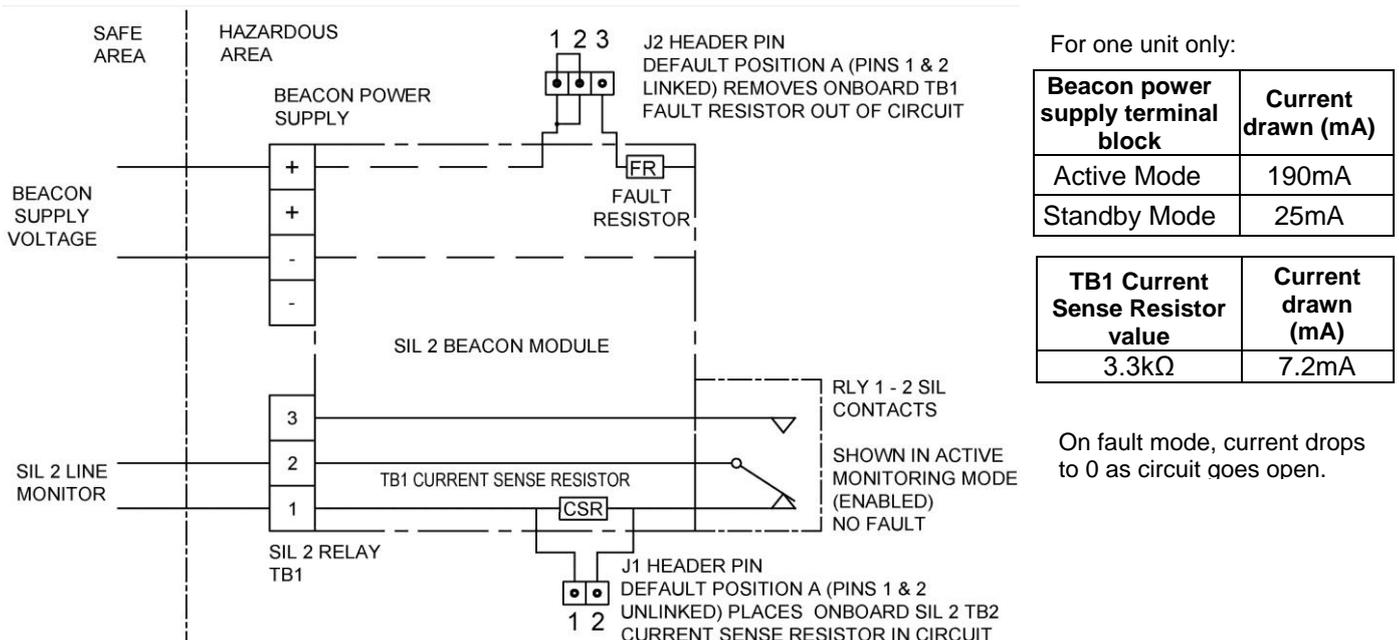

Figure 6 – Schematic of SIL 2 system wiring for fault detection in standby and active mode – 4 wire installation
- A single unit topology is where only one unit is connected to the customer interface line, as shown in figure 6.